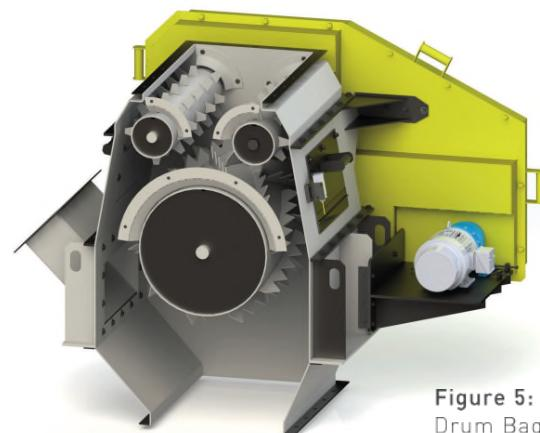

Figure 5: Detroit® Triple Drum Bagasse Feeder.
engineered to handle these difficulties. The Detroit® Bagasse Triple Drum Feeder, shown in figure 5, supplies fuel to the furnace at a closely controlled and uniform rate. The feeder consists of two (2) metering drums which control the flow of the refuse biomass fuel and one (1) carding drum to sort material into a consistent and uniform fuel flow. Bagasse is then distributed evenly into the furnace via a Detroit® Air Swept Distributor Spout.